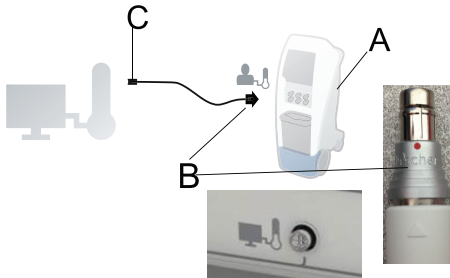

Figure 1 –
- Align the red dot on the **Reusable Patient Temperature Cable** (B) to the controller (A) external device port (Figure 1).